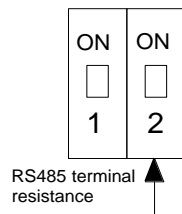

Fig 5
2. RS485 terminal resistance (120Ω) is selected by the dial switch, as Figure 5. When bit "2"dial switch is ON, the terminal resistance is 120Ω. Otherwise there is no any terminal resistance.